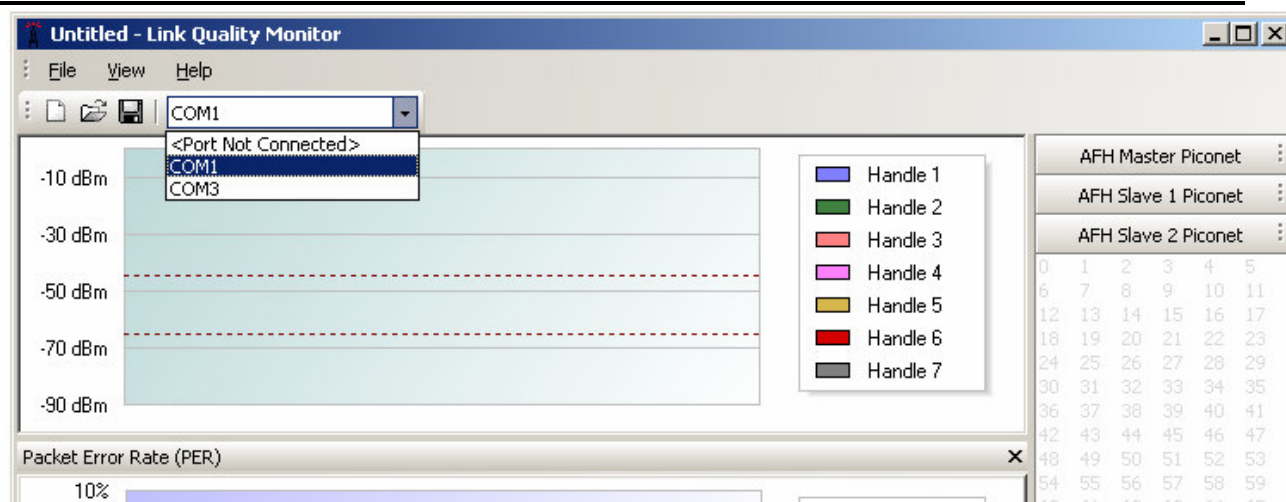

Figure 3 : COM port selection
- From the toolbar click the port connection box, a drop down menu displays the available ports. See figure 3.